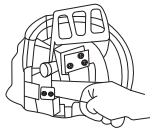

Fig. 34
3. Hold the guide bar tip up and rotate the chain-tensioning screw (Fig. 34) Clockwise with a standard screwdriver to tension the chain. The desired tension depends on the temperature of the chain: